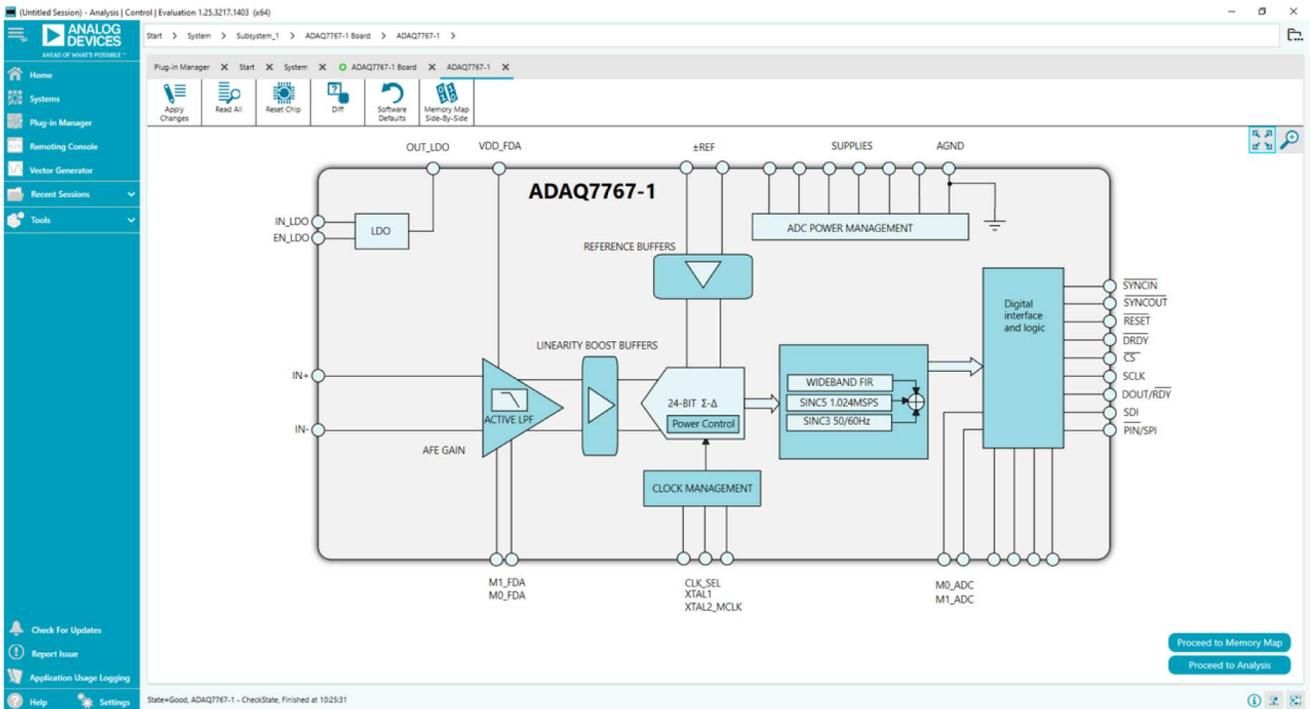

Figure 19. ADAQ7767-1 Board Chip View
5. Double click the **ADAQ7767-1 Board Chip** icon to open the **ADAQ7767-1 Board Chip View** (see Figure 19).
Click **Proceed to Analysis** in the **ADAQ7767-1 Board Chip View** window (see Figure 19) to open the **ADAQ7767-1 Board Analysis** window. The **ADAQ7767-1 Board Analysis** window showcases the performance of the EV-ADAQ7767-1FMC1Z. Before performing any measurements, set the **CAPTURE SETTINGS** and **ANALYSIS** settings.